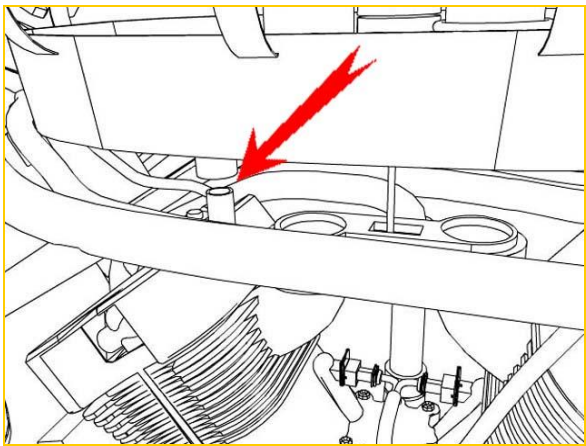

Fig 5
7. Disengage front crankcase breather hose and remove the airbox floor. There is no clamp on this hose. (Fig 5)